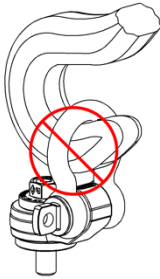

Fig 1
- NEVER use an oversize hook or other oversize lifting device that will pry or tend to deform the shackle (Fig.1).